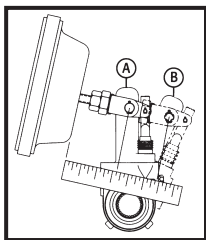

Figure 1 – Measuring Maximum Stroke
3. Using a ruler, measure the distance from the face of the air chamber to the center of the large pin in the clevis (A) (See fig. 1). Make a 90 psi brake application and allow the chamber push rod to travel its maximum stroke. Measure to the center of the large pin (B). The difference between (A) and (B) is the push rod stroke. Check the chart on the second page for proper maximum stroke after adjustment of the brakes.
3. After allowing the brake drum to cool to room temperature, check for correct chamber stroke following the procedure (See fig. 1). Due to different operating conditions, chamber stroke tests may be necessary at earlier intervals. See charts above for the recommended stroke measurements.
1. The Gunite automatic slack adjuster should not require manual readjustment. If the maximum chamber stroke is within the range for the size chamber used (See fig. 1), the slack adjuster should not be manually readjusted.